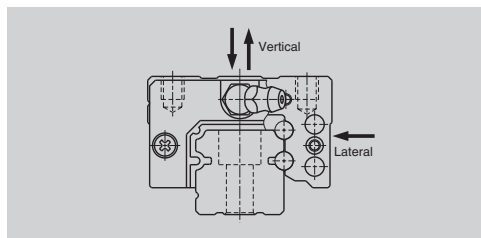

Fig. 3.4 Radial rigidity
- 1) Radial rigidity: Rigidity of vertical and lateral directions, up/down and right/left (Fig. 3.4).